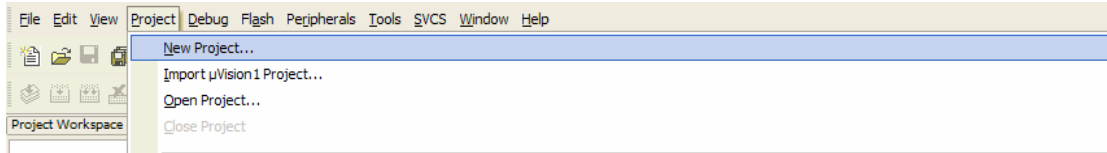

Figure 1
2. Set up the project. Run Keil firstly, and choose New Project as figure 1 shows.